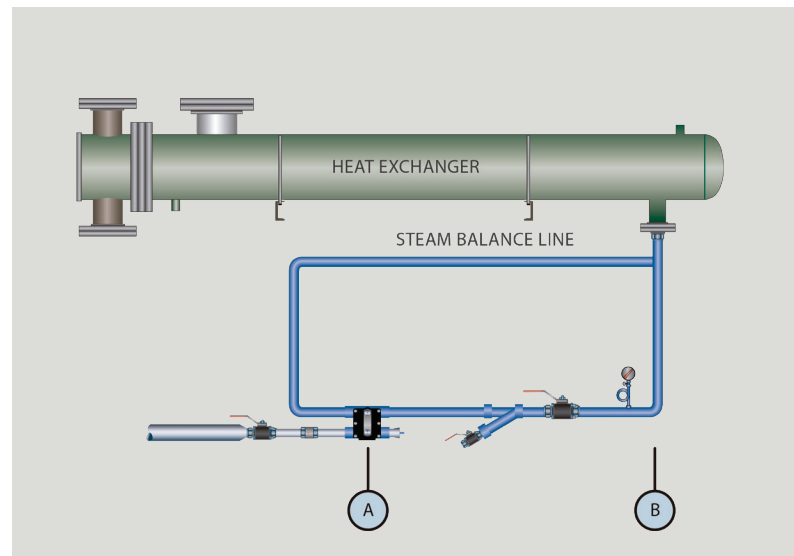

Figure 2. Balancing Line for a Steam Trap with a Connection Port and Balanced to the Condensate Outlet
2. If this is not possible due to installation constraints, then add a steam balancing line as shown in the piping configuration below. **Figure 2** indicates a simple addition of a balance line that can eliminate any system problems with steam locking.